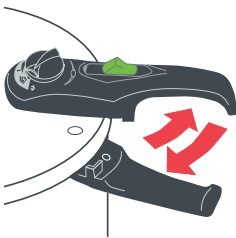

Fig.5
Pressure cooker handle (10). Besides being used to transport the cooker, the cooker handle is also fastened to the lid handle when the lid is turned clockwise (Fig. 5).